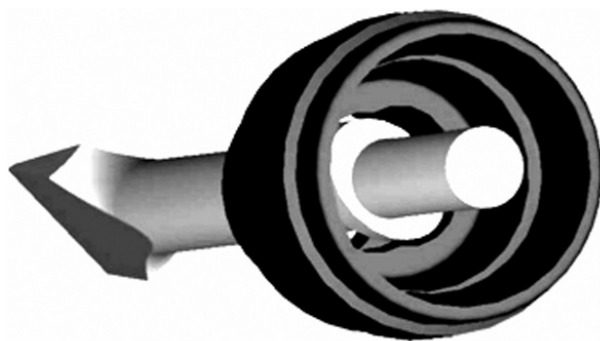

Fig. 2
3. Put the spring aside. Lubricate the top edge of the chisel shank chamfer with oil or light grease and then insert the chisel from the ellipse opening of the Retaining Sleeve (16). (See Fig. 2.)
4. During usage, the Retaining Sleeve (16) ledge may be slightly elongated, preventing insertion of the chisel into the Retaining Sleeve. It may require some force to get the Chisel's lobes past this point and to slide into the chisel mounting channel.